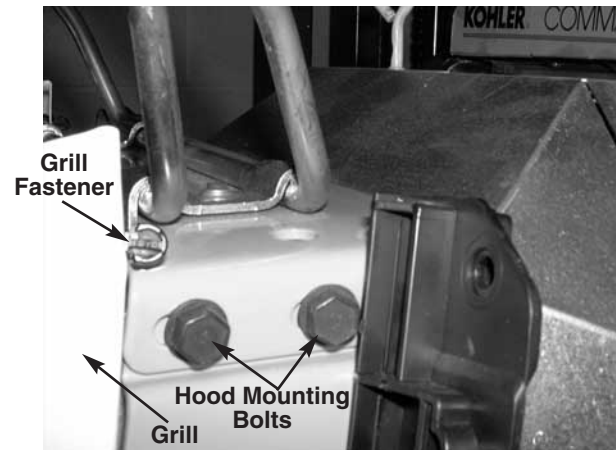

FIGURE 3.
8. Partially close the hood to allow access to the grill fasteners. See figure 3.
9. Squeeze all four grill fasteners and release the grill. See figure 3.
11. Remove all four hood mounting bolts from the muffler assembly brackets using a 1/2" socket. See figure 3.